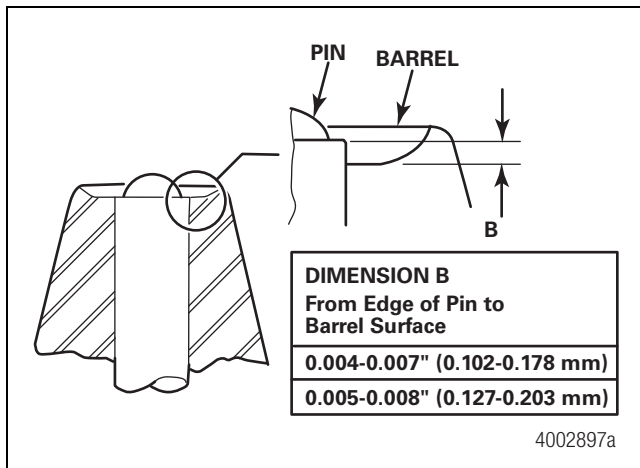

Figure 8.7
5. Measure Dimension B from the sharp edge of the anvil pin to the bottom surface in the head of the barrel. Figure 8.7.
• **If Dimension B exceeds the specification in Figure 8.7:**
• **If Dimension B is less than the specification in Figure 8.7:** Use the following procedure to shorten the barrel.